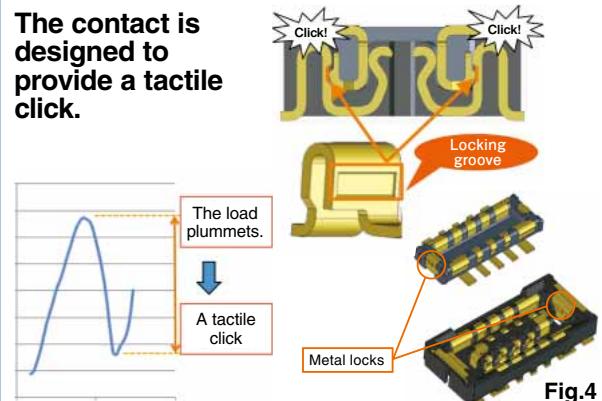

Fig.4
- 4. A tactile click ensures secure mating.** (Fig.4)